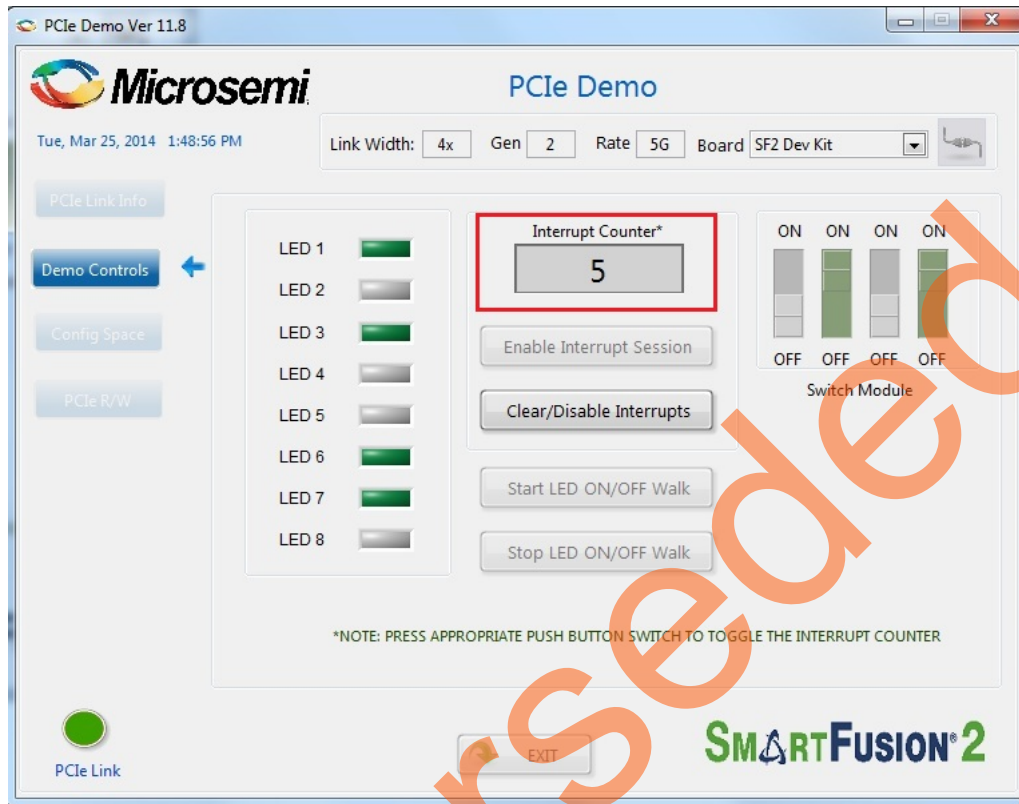

Figure 71 • Interrupt Counter
10. Press the push button SW3 on the SmartFusion2 Development Kit and observe the interrupt count on the **Interrupt Counter** field in GUI as shown in Figure 71.